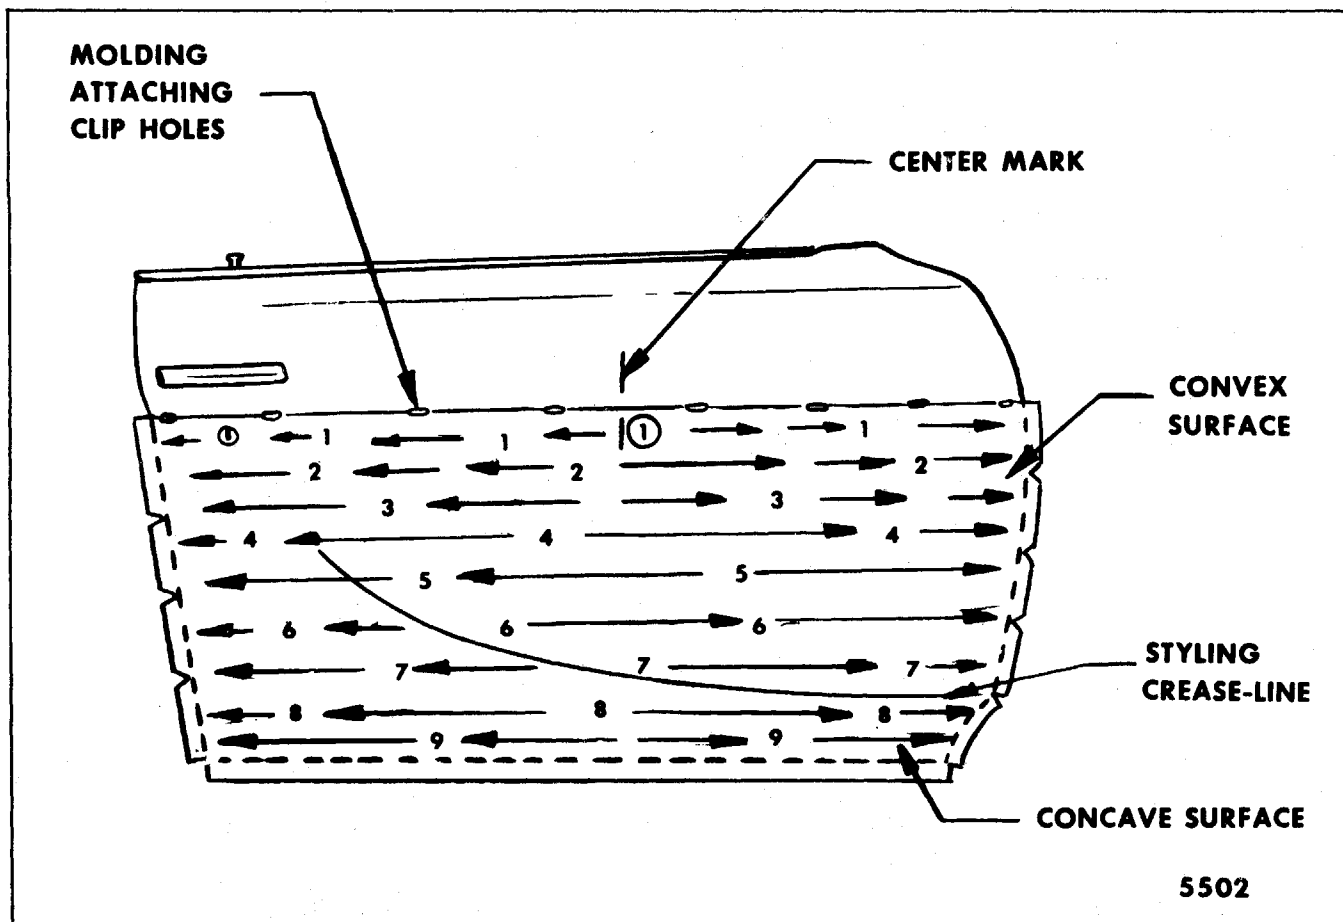

Fig. 1-10-Transfer Installation Sequence (Right Front Door Shown)
A proper squeegee sequence is of utmost importance. Start at top center of transfer. Progress to right and left from center to establish alignment across top. Then squeegee downward from this position in small increments all the way across transfer as described in Figure 1-10 and in this procedure.
7. Position transfer to repair panel, centering transfer for proper vertical and lateral alignment. Center-mark transfer and panel accordingly (Fig 1-10).
12. With one hand, lift the unsecured lower area of transfer from panel. If transfer sticks prematurely, break bond with fast, firm pull. Position transfer close to panel at center and squeegee downward for short distance (approximately 2"). Then squeegee laterally over same spot. Repeat this operation working toward each end of panel. Continue bonding of transfer with firm, overlapping strokes. Example of squeegee progression is shown in Figure 1-10.
14. Work progressively downward in small increments completely across transfer as shown in Figure 1-10.